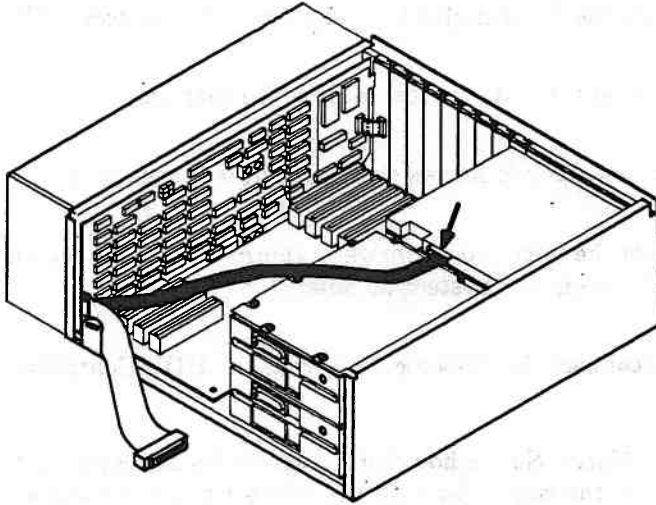

Figure 5-72. Small Expansion Box Power Cable Connection
6. Disconnect the Small Expansion Box power cable from the power supply (Figure 5-72).